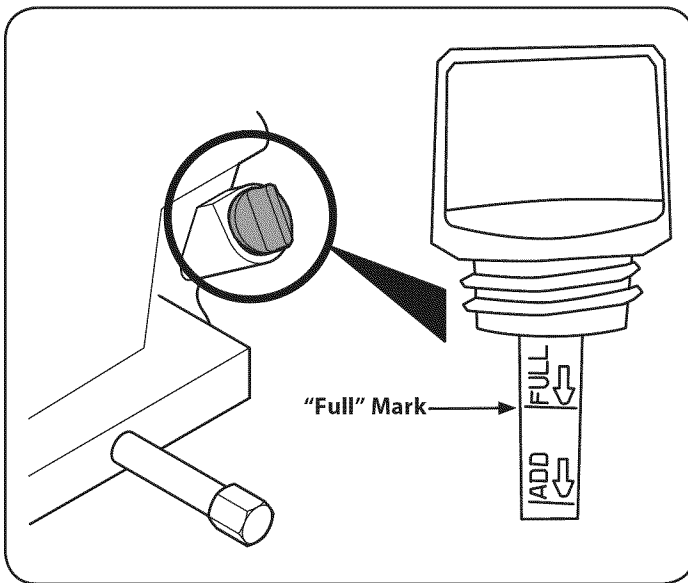

Figure 8
2. Remove the oil filler cap/dipstick and wipe the dipstick clean. See Figure 8.
4. Remove the oil filler cap/dipstick. The oil should be at the "FULL" mark. If it is not, add oil slowly until the "Full" mark is reached. See Figure 8.